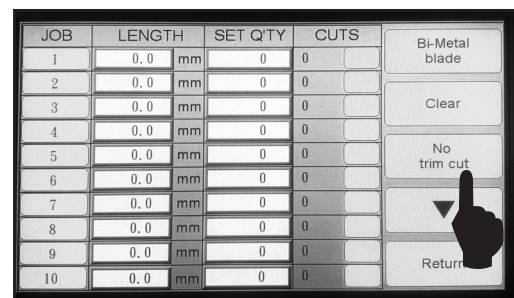

FIG. 4.6
3. **Trim Cut :** When the machine is set up at “NO” trim cut it means that the program will calculate the first cut as part of the quantity. If not selected the program will allow the first cut item not to be included in the quantity. ( Fig 4.6 )